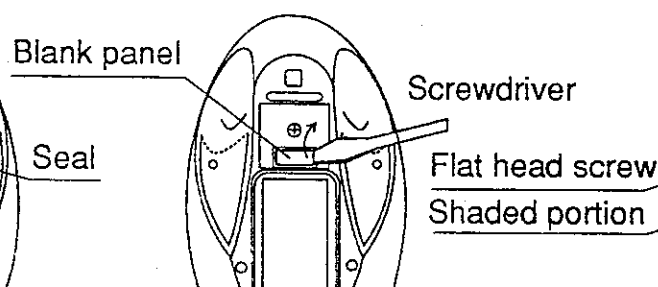

Fig. 7
Step 3 See Fig. 7. Remove blank panel (U4-4940) using screwdriver.
Step 4 See Fig. 7. Remove flat head screw (UZ4-0215) using a Philips screw-driver.